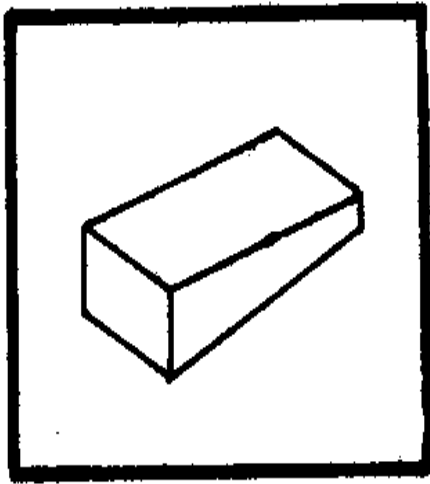

Fig. 17 - Side Taper.
(1) Fix the side crack by moving the bolts sideways, as in paragraph 54 (usually it is only necessary to move the bottom bolt on the end with the crack toward the side where the crack occurs).
(2) Fix the end crack by moving the lower adjusting bolt opposite the cracking end inward against the piston, as in paragraph 55.
59. Side Taper (See Fig. 17.)